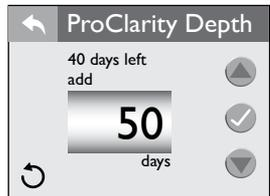

Figure 12.6f
A programmable filter timer can be set to remind you when to replace the ProClarity Depth Filter. Tap **ProClarity Depth 50** > (Figure 12.6f) to enter the Programming Menu.
1. From the “Water Care” Menu you can to set the “ProClarity Depth” timer, Figure 12.6f.